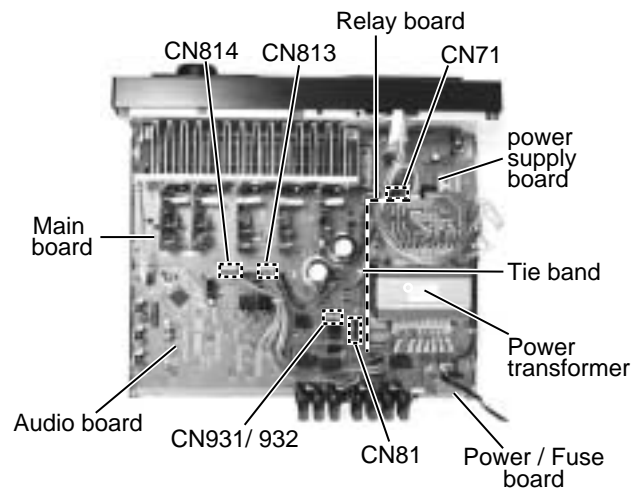

Fig.12
■ Removing the audio board (See Fig.12 to 13)